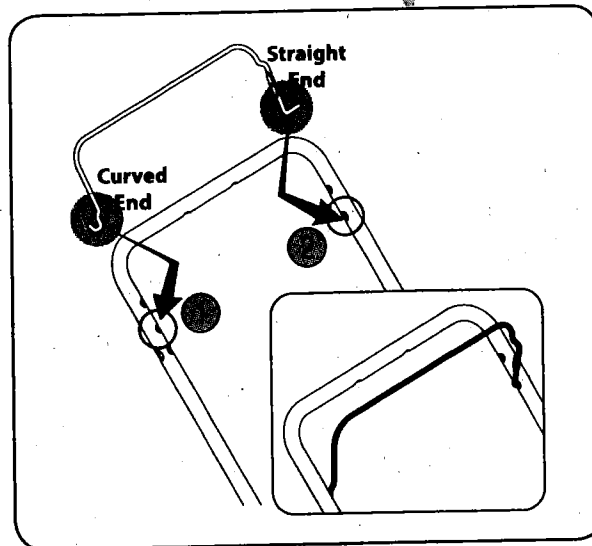

Figure 3-5
1. Insert the curved end of the blade control into the center hole located on the right side of the upper handle. See Figure 3-5.
2. Gently squeeze the blade control inward and insert the straight end into the lower hole located on the left side of the upper handle. See Figure 3-5.